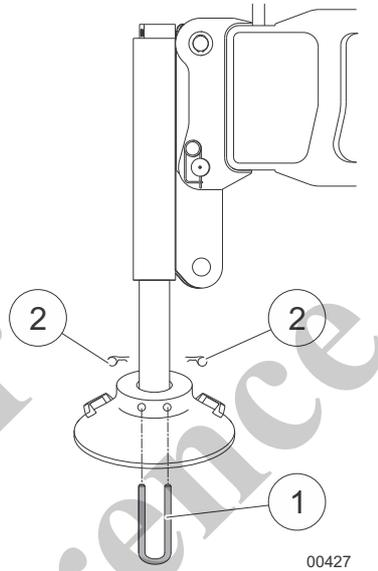

Fig. 109 Attaching the outrigger pads
- 17 | Extend the outrigger cylinder into the outrigger pad using the remote radio control in Fig. 109. Insert the locking bracket (1) through the outrigger pad and secure it with spring washers (2).